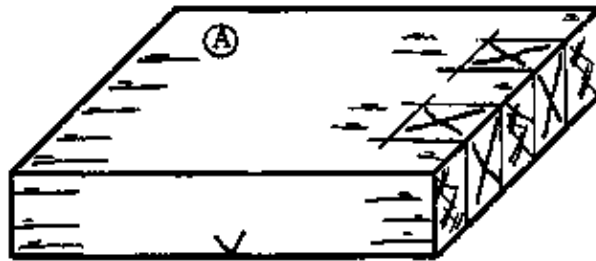

Fig. 10
– Square the sides of the slots down both sides (Fig. 10).
- Mark the waste with small crosses (Fig. 10).